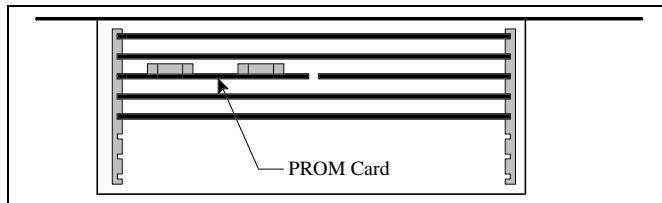

Figure 5 - PROM Card Location for Top Entry
4. Remove the PROM Card (see Figure 5) by pulling on the two tabs fastened to the front edge of the card. Once the card has disengaged the connector, use one hand to push up on the board above to help prevent the PROM Card from dragging as it is pulled out. (Observe standard handling practices for static sensitive components.)